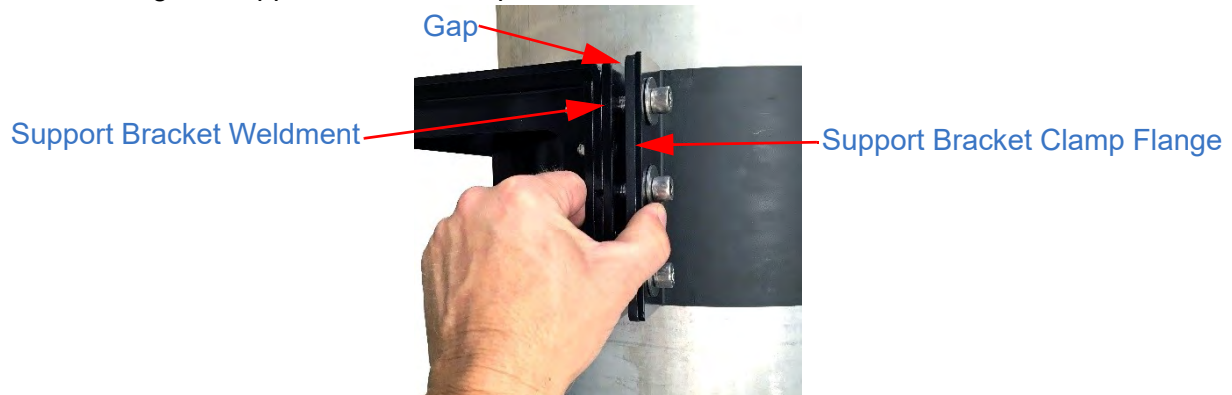

Figure 5-16 Press the Support Bracket Clamp Flange Towards the Bracket Weldment
- e. Press with your hand against the left support bracket clamp flange and push it towards the support bracket weldment (Figure 5-16). Looking at the gap between the support bracket weldment and the support bracket clamp, estimate how many of the shims can fit in the gap while allowing the external support bracket to snugly secured to the mast, but without bending the support bracket clamp.